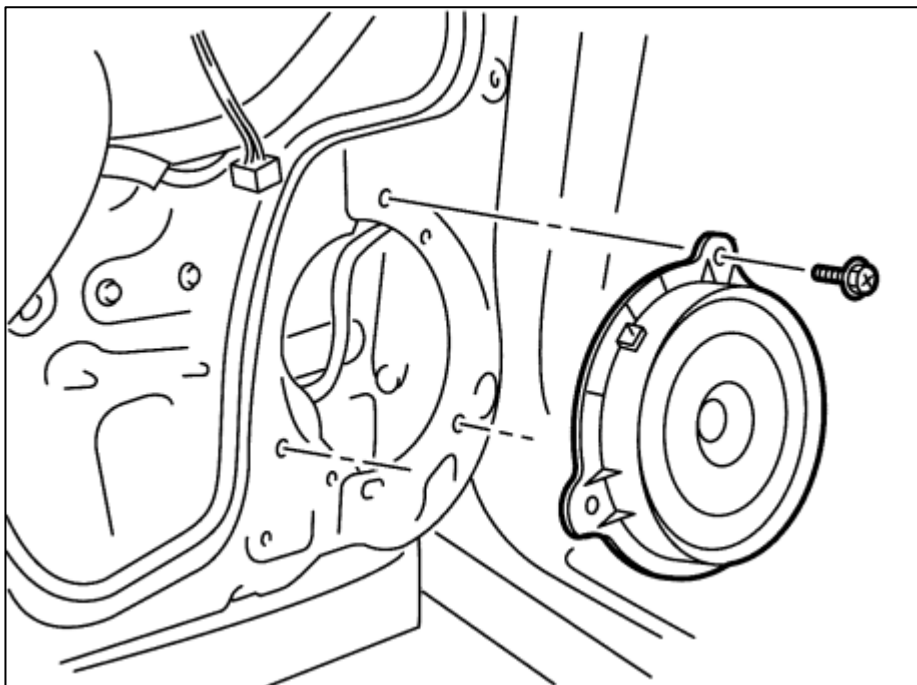

Figure 72
10. Remove the bolts securing the Door Speaker to the Door and remove the Speaker from the Door. *Figure 72.*